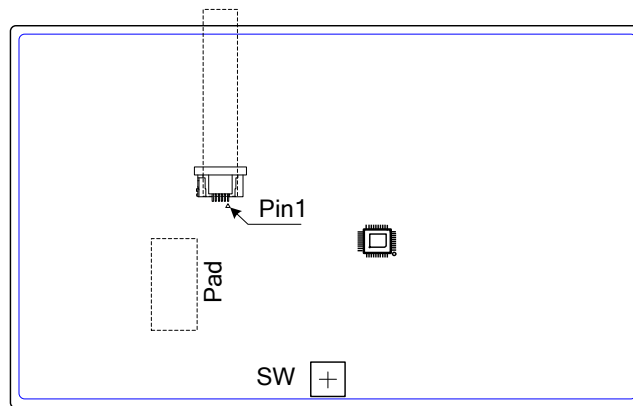

Figure 6. Sensor - Top View - Left Orientation
- X3: Control mode. Please refer to Figure 6